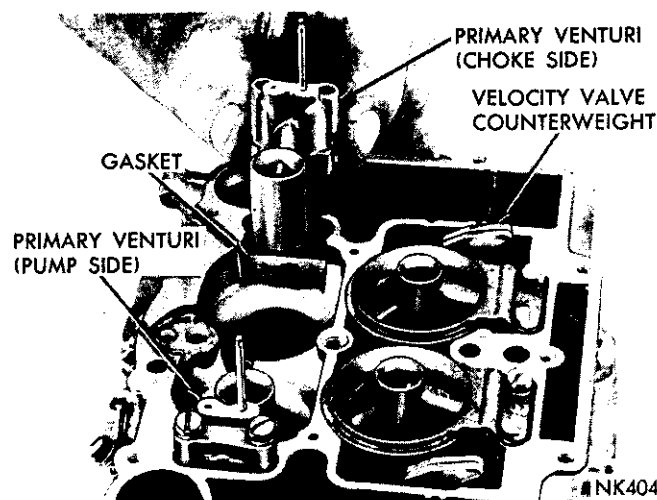

Fig. 5—Removing or Installing Primary Venturi Cluster
(4) Remove screws that attach primary venturi (choke and pump side) to main body. Lift venturi straight up and away from main body, (Fig. 5). Discard gaskets. **The venturi assemblies are not interchangeable, side for side and must be reinstalled in their original locations at reassembly.**
(5) Place new primary venturi gaskets in position, then install the primary venturi (pump and choke side) by lowering straight down on gaskets. (Fig. 5). Install attaching screws and tighten securely.